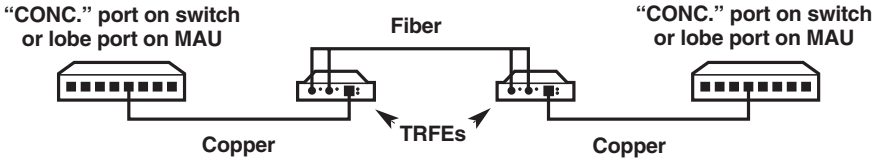

Figure 2-5. Connecting concentrators.
For switch-to MAU links, or to interconnect two Token Ring networks through the TCU ports of two MAUs or switches, the TRFEs should be configured as shown in Figure 2-5 below.
3. Concentrator--to-Concentrator—see Figure 2-5 on page 12